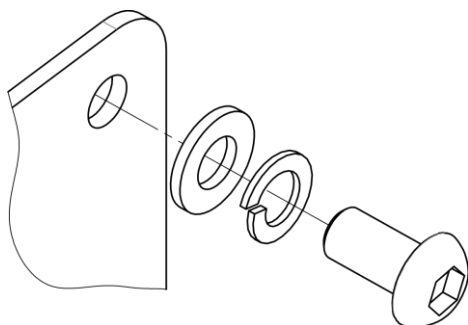

Figure 3. Washers on the screw
5.4.2. Connect the units with four plates. A plate requires four screws, each with a washer and a lock washer on it (fig. 3). Fix the screws tightly.
5.5.1.1 Attach the left and the right legs to the base unit. A leg requires four screws, each with a washer and a lock washer on it (fig. 3). Fix the screws tightly.
5.5.2.2 Connect the units with four plates. A plate requires four screws, each with a washer and a lock washer on it (fig. 3). Fix the screws tightly.
5.5.3.2 Connect the units with four plates. A plate requires four screws, each with a washer and a lock washer on it (fig. 3). Fix the screws tightly.